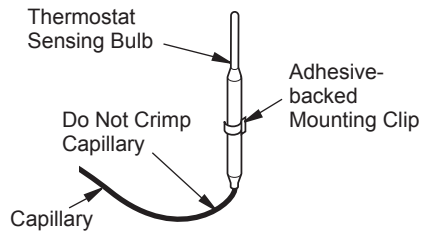

Figure 37 - Positioning the Thermostat Sensing Bulb in the Vertical Position with the Capillary at the Bottom
- The mounting clip must be a minimum of 3" from bottom of fireplace to prevent crimping of capillary. Once you have decided on a location, clean the area thoroughly. Remove the paper backing from the adhesive on back of mounting clip. Press the clip into the new location so that the thermostat sensing bulb will be positioned vertically with the capillary at the bottom (see Figure 37). Slide the thermostat sensing bulb into the clip.